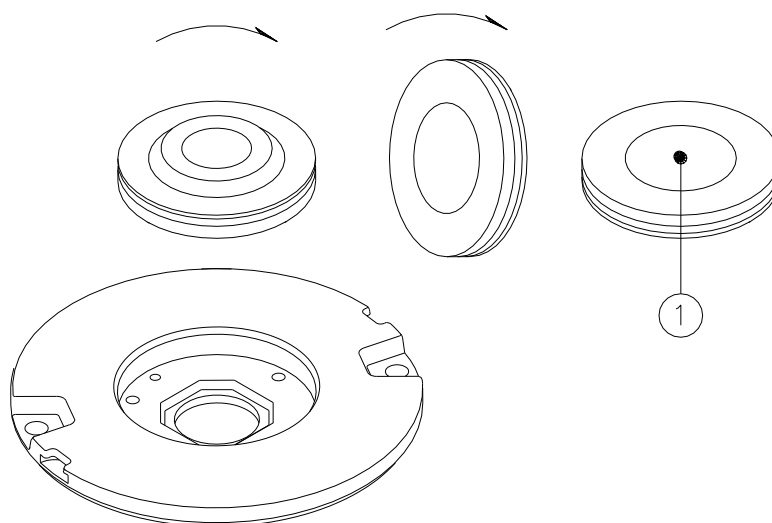

Figure 22 – Lens Surface to be Cleaned
- turn the aluminium ring upside down as shown in Figure 22 and polish the lens (Figure 22 - n° 1) with non abrasive glass product